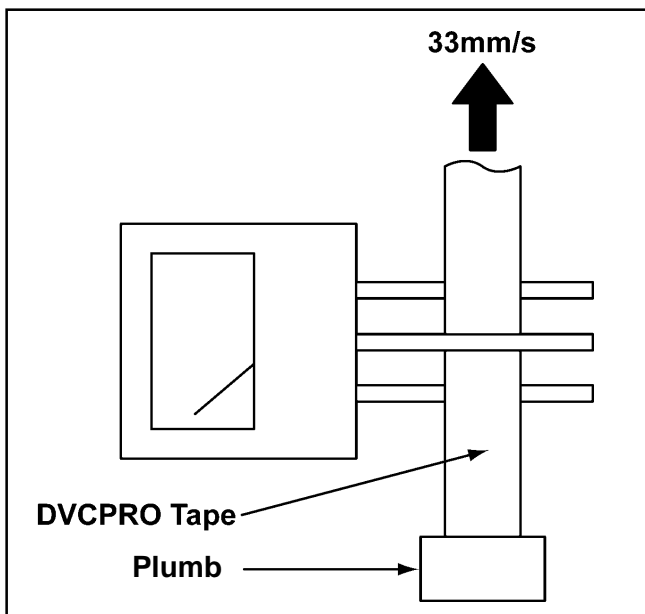

Figure 4-8-1
2. Set the above tape to the Tension Meter as shown in figure 4-8-1.
- ◆ To calibrate Tension Meter the tape must be pulled up as the direction of tape path of VTR as shown in figure 4-8-1.